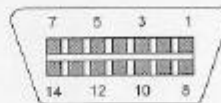

Figure 2-3: Pin assignments for the Load Cell Port
3. If you do not wish to use the shielded load cell cable, you may use your own, following the pin assignments shown in Figure 2-3. (A 14-pin Male Centronics-type connector is required).